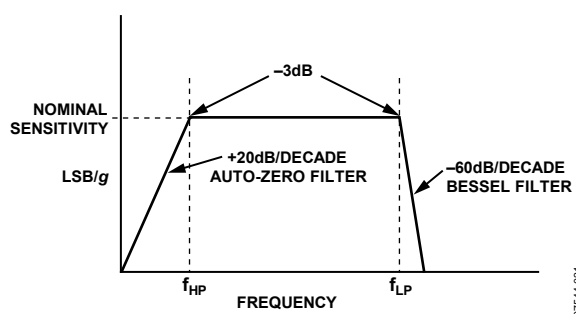

Figure 31. Bode Plot of ADXL180 Transfer Function
The three-pole, low-pass Bessel filter has a selectable -3 dB corner (f_{LP}). The corner can be set to 100 Hz, 200 Hz, 400 Hz, or 800 Hz by programming the filter corner (FC) bits in the configuration registers. In the pass band between f_{HP} and f_{LP} , the response of the ADXL180 is flat with the nominal scale factor defined by the settings of the range (RG) bits in the configuration registers (see Figure 31). The auto-zero function creates a first-order high-pass filter with a -3 dB corner at f_{LP} . Note that the output of this filter is slew rate limited. The auto-zero function can be disabled by setting the appropriate bit in the configuration registers. See the Specifications section for more information.